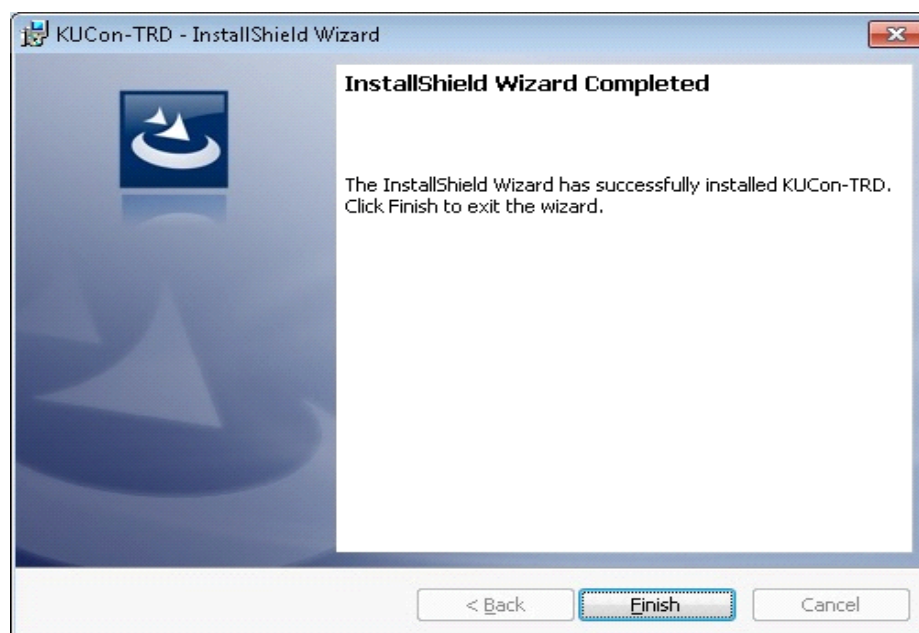

Figure 2-7: Finish InstallShield Wizard
6. After installation is complete, click **Finish** to exit the InstallShield Wizard, as shown in Figure 2-7.